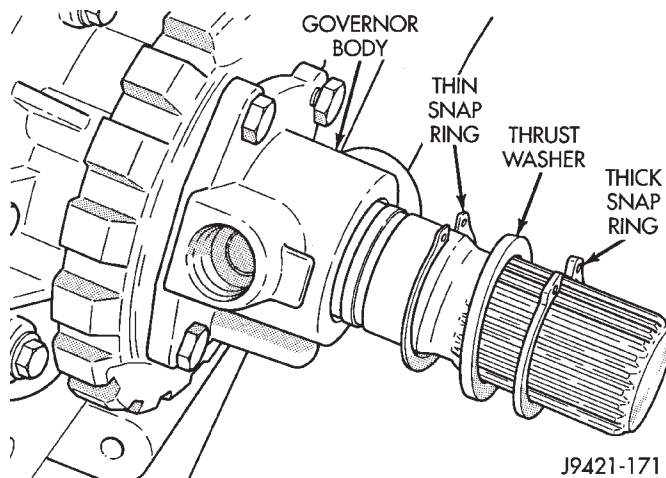

Fig. 32 Snap Rings And Spacer
- (11) Remove snap rings and spacer that retain governor body and park gear assembly on output shaft (Fig. 32).
- (a) Install thin snap ring first. Then install thrust washer second, and thick snap ring last (Fig. 32).